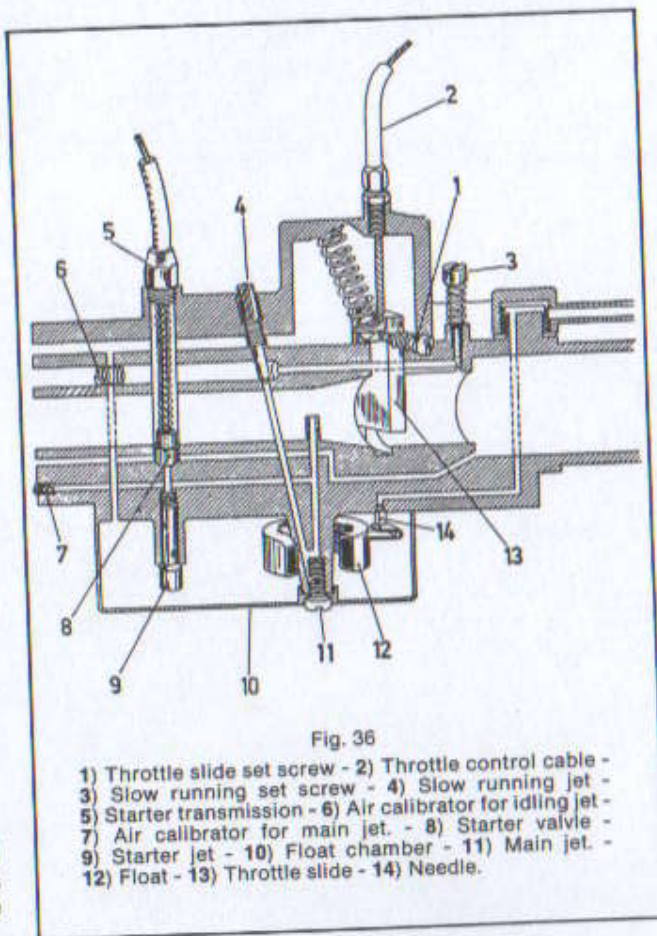

Fig. 36
a) - Tune the throttle slide set screw (No. 1 in fig. 36) so that said screw reaches the point near the engine running stop limit. At this condition tune the slow running set screw (No. 3 in fig. 36) in order to increase the engine revolutions; if with this operation the increase of the engine revolution is excessive, reduce it: i.e. by means of the screw (No 1 in fig. 36) let further down the throttle slide till the nearest position to that one of the engine running stop limit, already described, is reached.